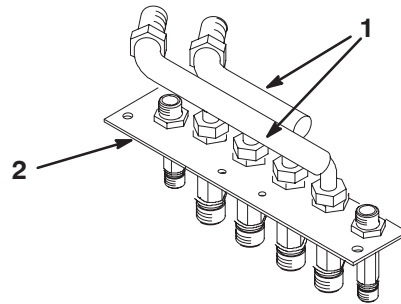

Figure 4
- Remove the hydraulic tubes from the bulkhead assembly (Fig. 4).